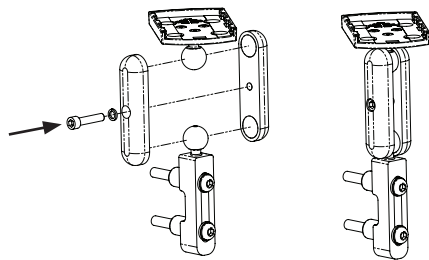

Figure 4
5. Using the  $5/32$ " Hex Key, loosely reassemble the top portion of the Mount as shown in **Figure 4**.